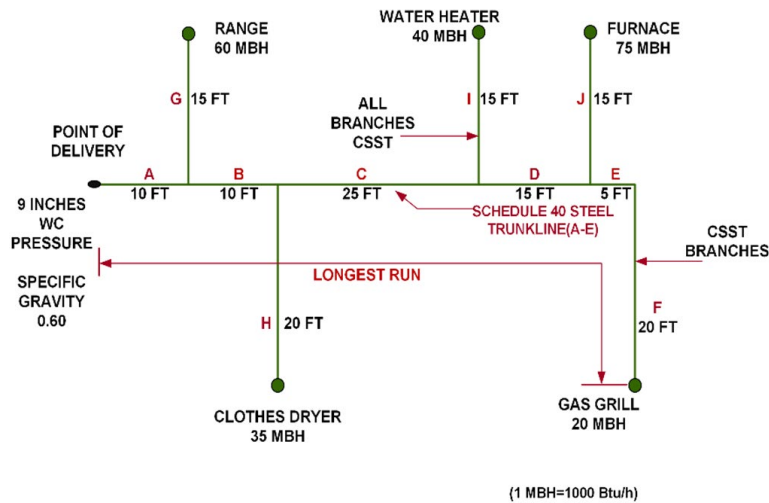

Figure 3 Branch Piping System with Schedule 40 Steel Pipe Trunkline & CSST
In accordance with Section 402.4.2 item 2/Section G2413.4.2, determine the size of Branch Sections F, G, H, I and J (constructed of CSST) based on the load of each section and the length of piping and tubing from the point of delivery to the outlet on that section. Table 4 is chosen because the branch sections are constructed of CSST, and the pressure is less than 0.5 psi [(14 in. w.c.) (3.5 kPa)]. Where a length falls between entries in the table, use the next longer length row. See Table 5 and Table 6 for the final pipe sizes and load section of pipe in Figure 3.